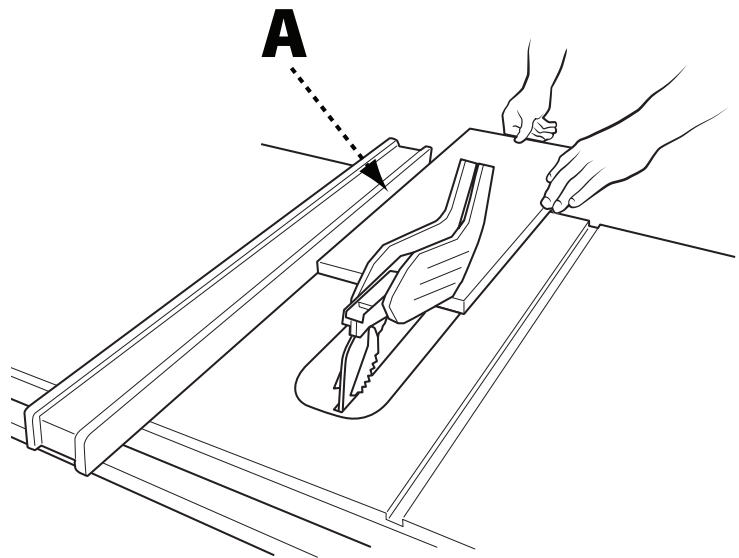

FIGURE 21
8. Hold the workpiece flat on the table and against the fence (A). The workpiece must have a straight edge against the fence and must not be warped, twisted or bowed. See proper hand position in Figure 21.